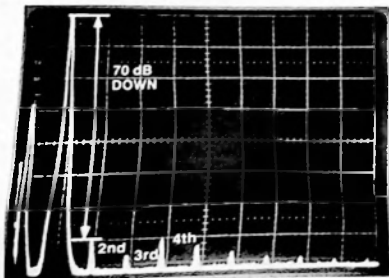

Fig. 12. Checking Harmonic Distortion of Audio Generator
3. Check the harmonic content of the audio generator by looking at a 0 to 20 kHz span on the analyzer. Tune the generator frequency from 20 Hz to 15 kHz and note that the harmonics are at least 70 dB below the desired tone (figure 12).